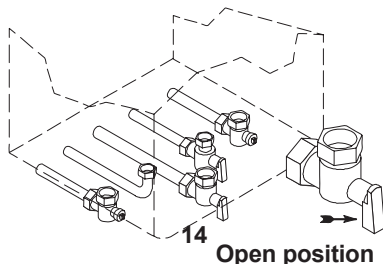

Fig. 7.1
- Open the gas cock 14 (Fig. 7.1) on the appliance and check the gas connector on the appliance for leaks.